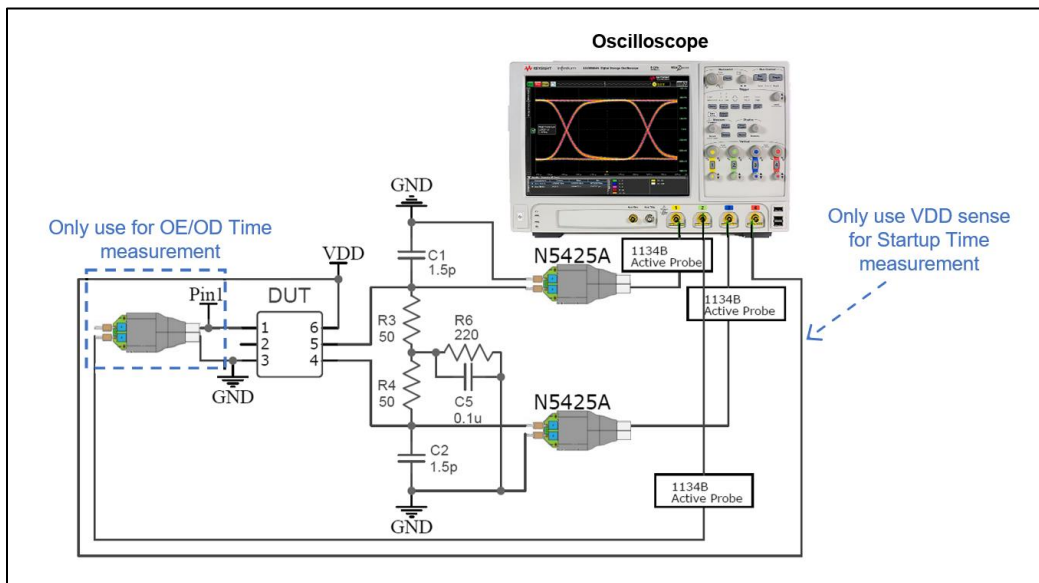

Figure 7. Test setup to measure FlexSwing Output Waveform Characteristics, Current Consumption^[17], Output Enable/Disable Time, and Startup Time
- 14. See Figure 7 for the test setup to measure LVPECL Current Consumption with Termination 1 or without Termination.